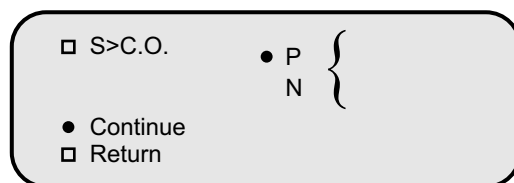

Fig. 11: Quality Judgment (1)
2. If the reagent specification does not prescribe, directly press **Enter** key to go to the interface of quality judgment (Fig. 11). If you want to return to the main menu, press **Reset** key; if you want to return to the superior menu, press \blacktriangledown till the symbol in front of **Return** becomes \bullet and then press **Enter** key.